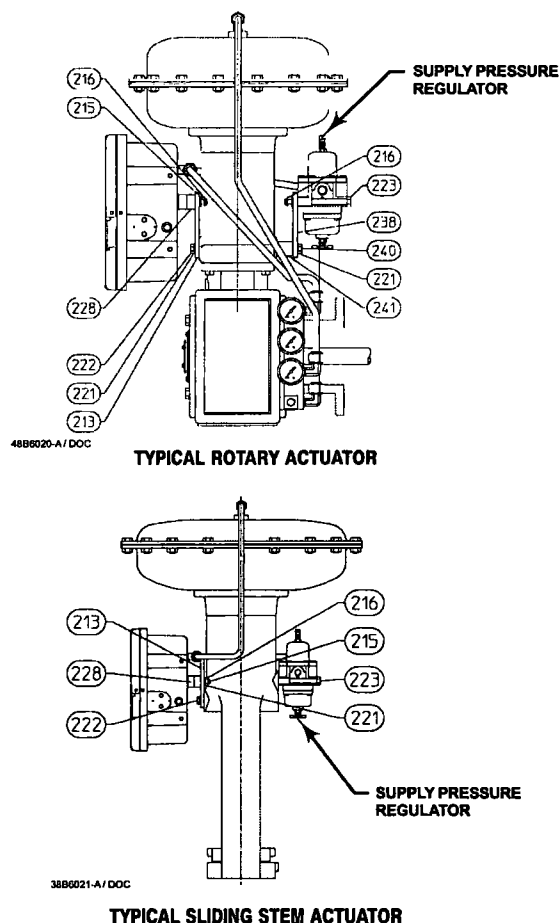

Figure 4. Actuator Mounting
Refer to figure 4.
Mounting parts for the different actuator types and sizes vary. Two typical actuator-mounting installations are shown in figure 4; see the parts list for parts required for the specific actuator type and size involved. Attach the spacer spools (key 228) and the mounting plate (key 213) to the controller with machine screws, lock washers, and nuts (keys 215, 221, and 216).